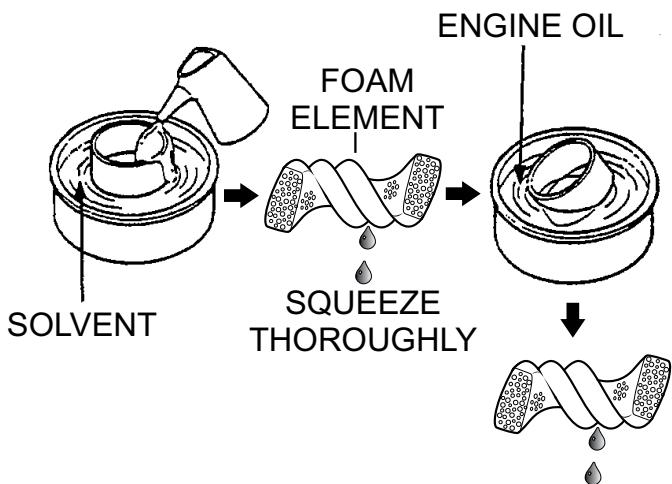

Figure 44. Cleaning Foam Element
6. Clean foam element (Figure 44) in warm, soapy water or non-flammable solvent. Rinse and dry thoroughly.